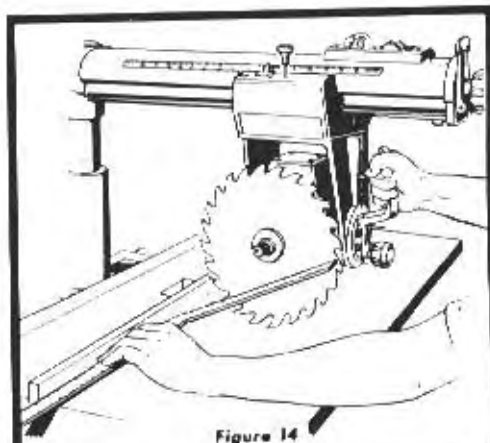

Figure 14
1. Place a square against the rip fence and the saw blade as shown in figure 14. The long leg of the square must be held firmly against the rip fence and the short leg must not touch any of the teeth on the saw blade.